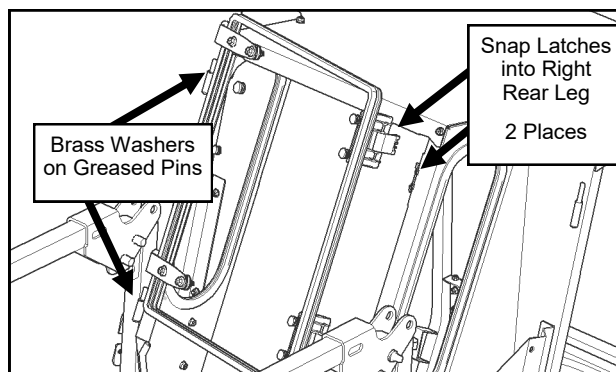

Fig. 14.2 (Hang Rear Window, CA cab only)
- 14.2** Hang the rear window on the hinges. See Figure 14.2.